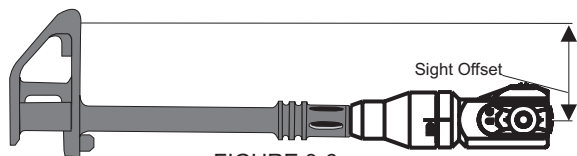

FIGURE 3-6
1. Measure or calculate the distance between the center of the bore and the center of the sight. For example, if you are using an iron sight, then this distance will be the distance from the center of the bore to the top of the front post. A common offset distance is 1.5 inches. See Figure 3-6.